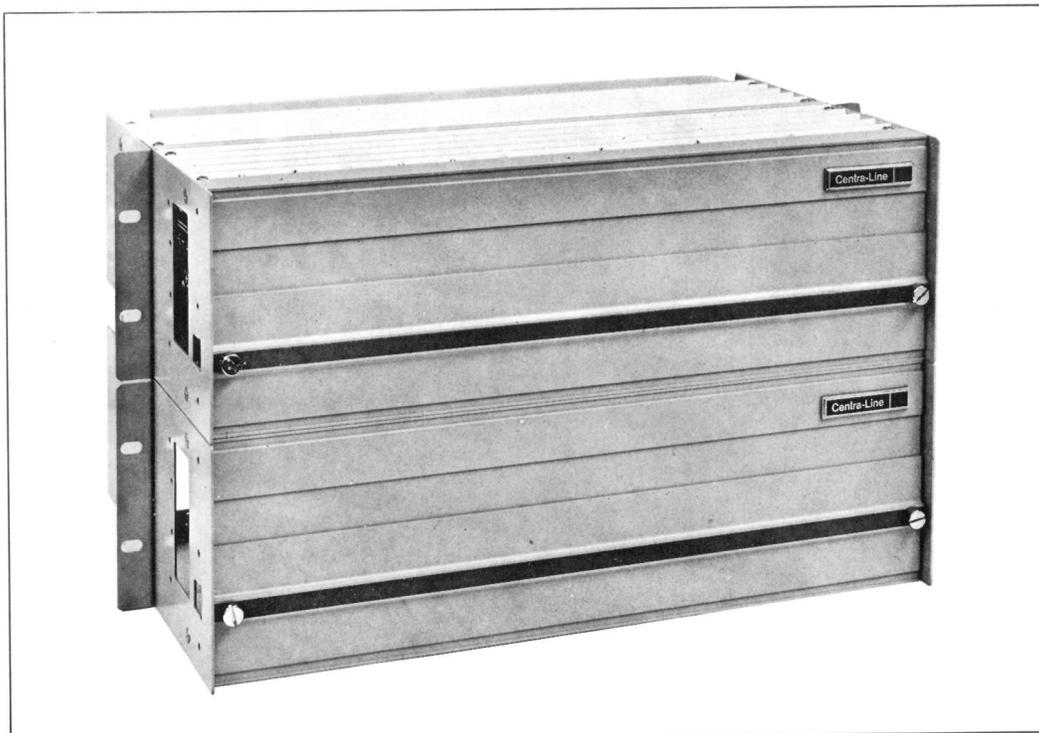
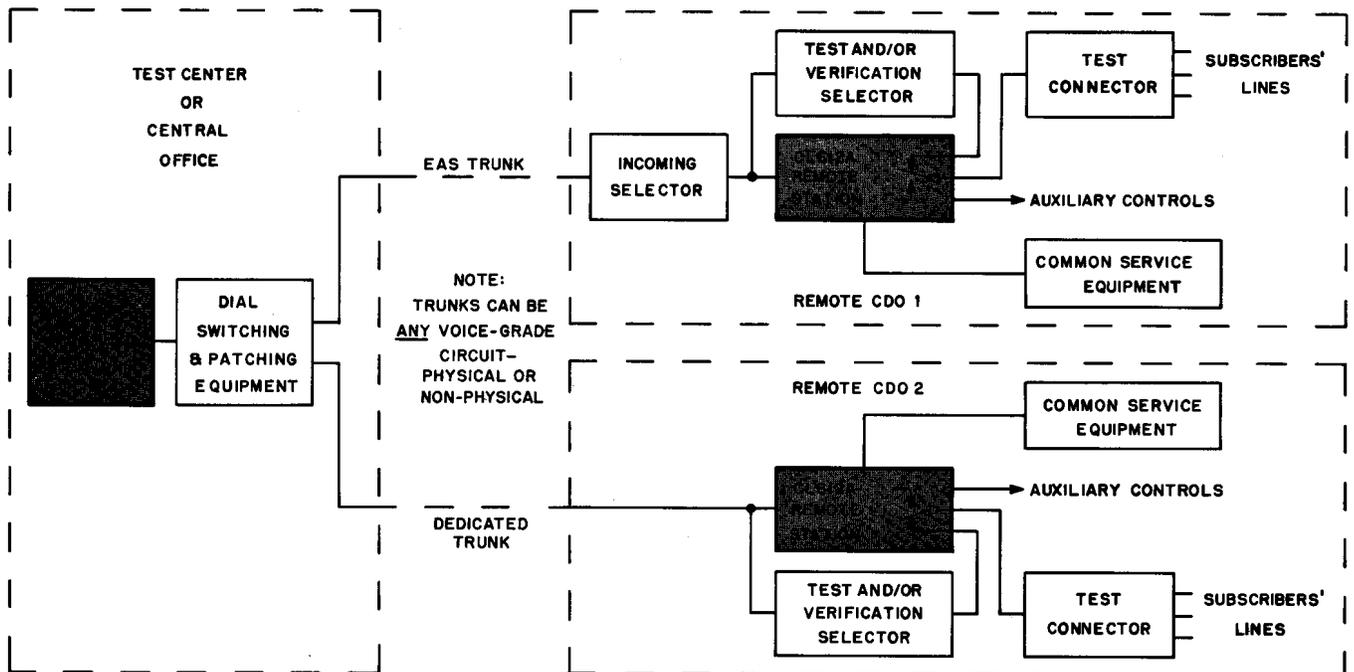

Figure 2 - CL612A Remote Station
Figure 3 - Block Diagram Showing Relationship Between CL612A and Telco Equipment
1.03 The 612A System can include a single master station operating with any number of remote stations. The master station (Figure 1) is generally located in a test center or central office. Each remote station (Figure 2) is situated in a remote CDO. A typical system layout showing the relationship between the 612A and the telephone equipment is shown in Figure 3.